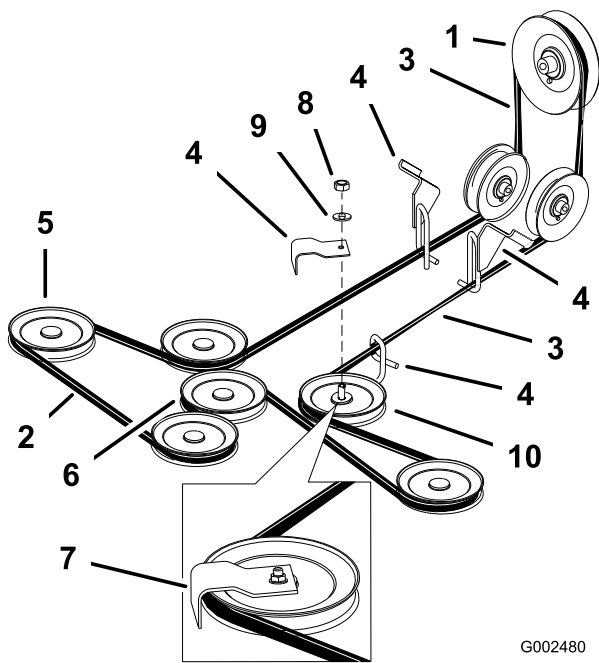

Figure 48
4. Loosen the nut securing the idler plate and move the idler plate to relieve the belt tension on the idler pulley (Figure 48).
6. Remove the mower belt from the belt guides and remove the belt (Figure 48).
7. Install the new mower belt around the mower spindle pulleys, mower idler pulley, into the belt guides, into rear idler arm assembly, and the clutch (Figure 48).
Note: Check the amount of twist in the belt between the pulleys. Ensure it is only what is specified in Figure 48.
Important: Check the amount of twist in the belt between the pulleys. Make sure it is only what is specified in Figure 48.